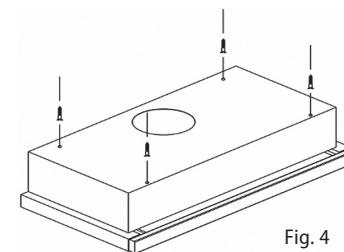

Fig. 4
6. Fix the unit to the bottom side of the cupboard using the supplied screws (Fig. 4).